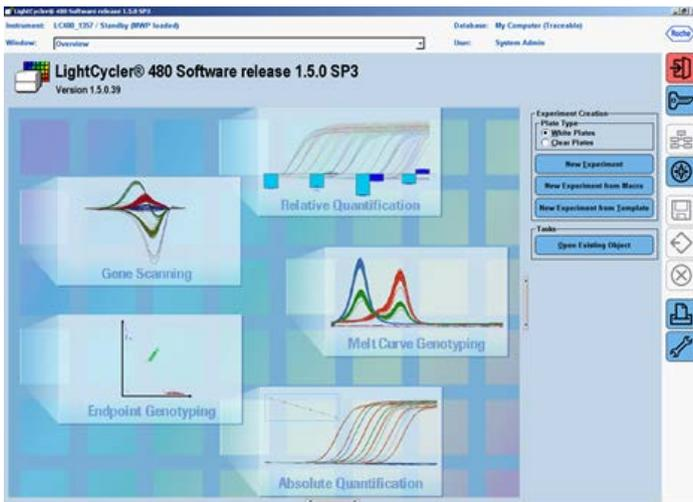

Figure 1. Overview window.
4. In the “Overview” window (Figure 1), click the “New Experiment” button on the right-hand side of the window to launch the “Run” module.